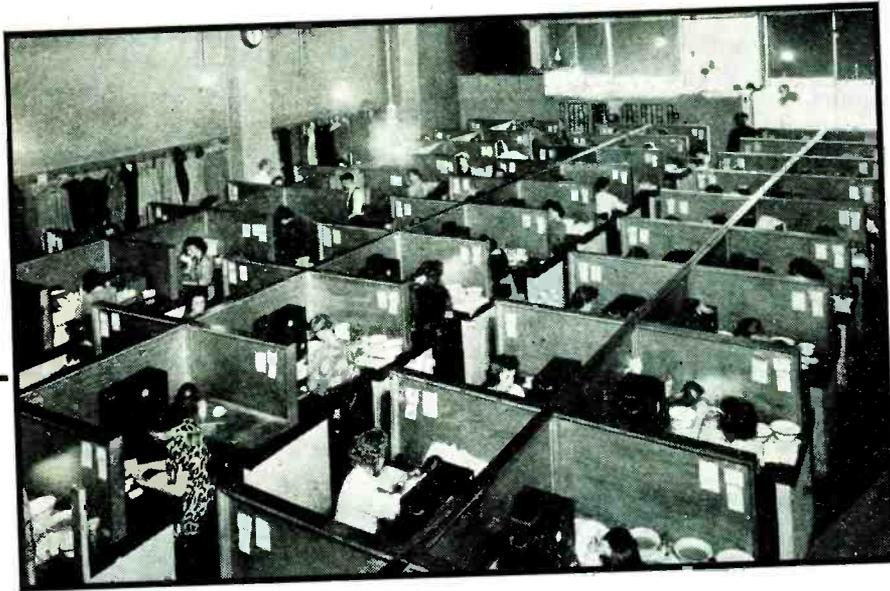

FIG. 2—A portion of the crystal-finishing department in the author's plant
To better picture exactly what happens in this process, let us take a look at Fig. 3. This is similar to Fig. 2 except that we now have H_m plotted against B_m instead of against B_r , as previously. This means that the slope of the straight line of Eq. (2) is multiplied by the factor FA_g/A_m , and the equation of this line becomes
While there are many hand finishing procedures in use in different plants, common practice is as follows: The finisher is furnished with a work position as shown in Fig. 1. A portion of a finishing department is pictured in Fig. 2. Necessary gear includes frequency-checking equipment, a flat glass plate, fine abrasive (No. 125 optical powder or its equivalent), water, bowls, brush, cleaning solutions, several lint-free towels, a micrometer, an optical flat, and a small square.